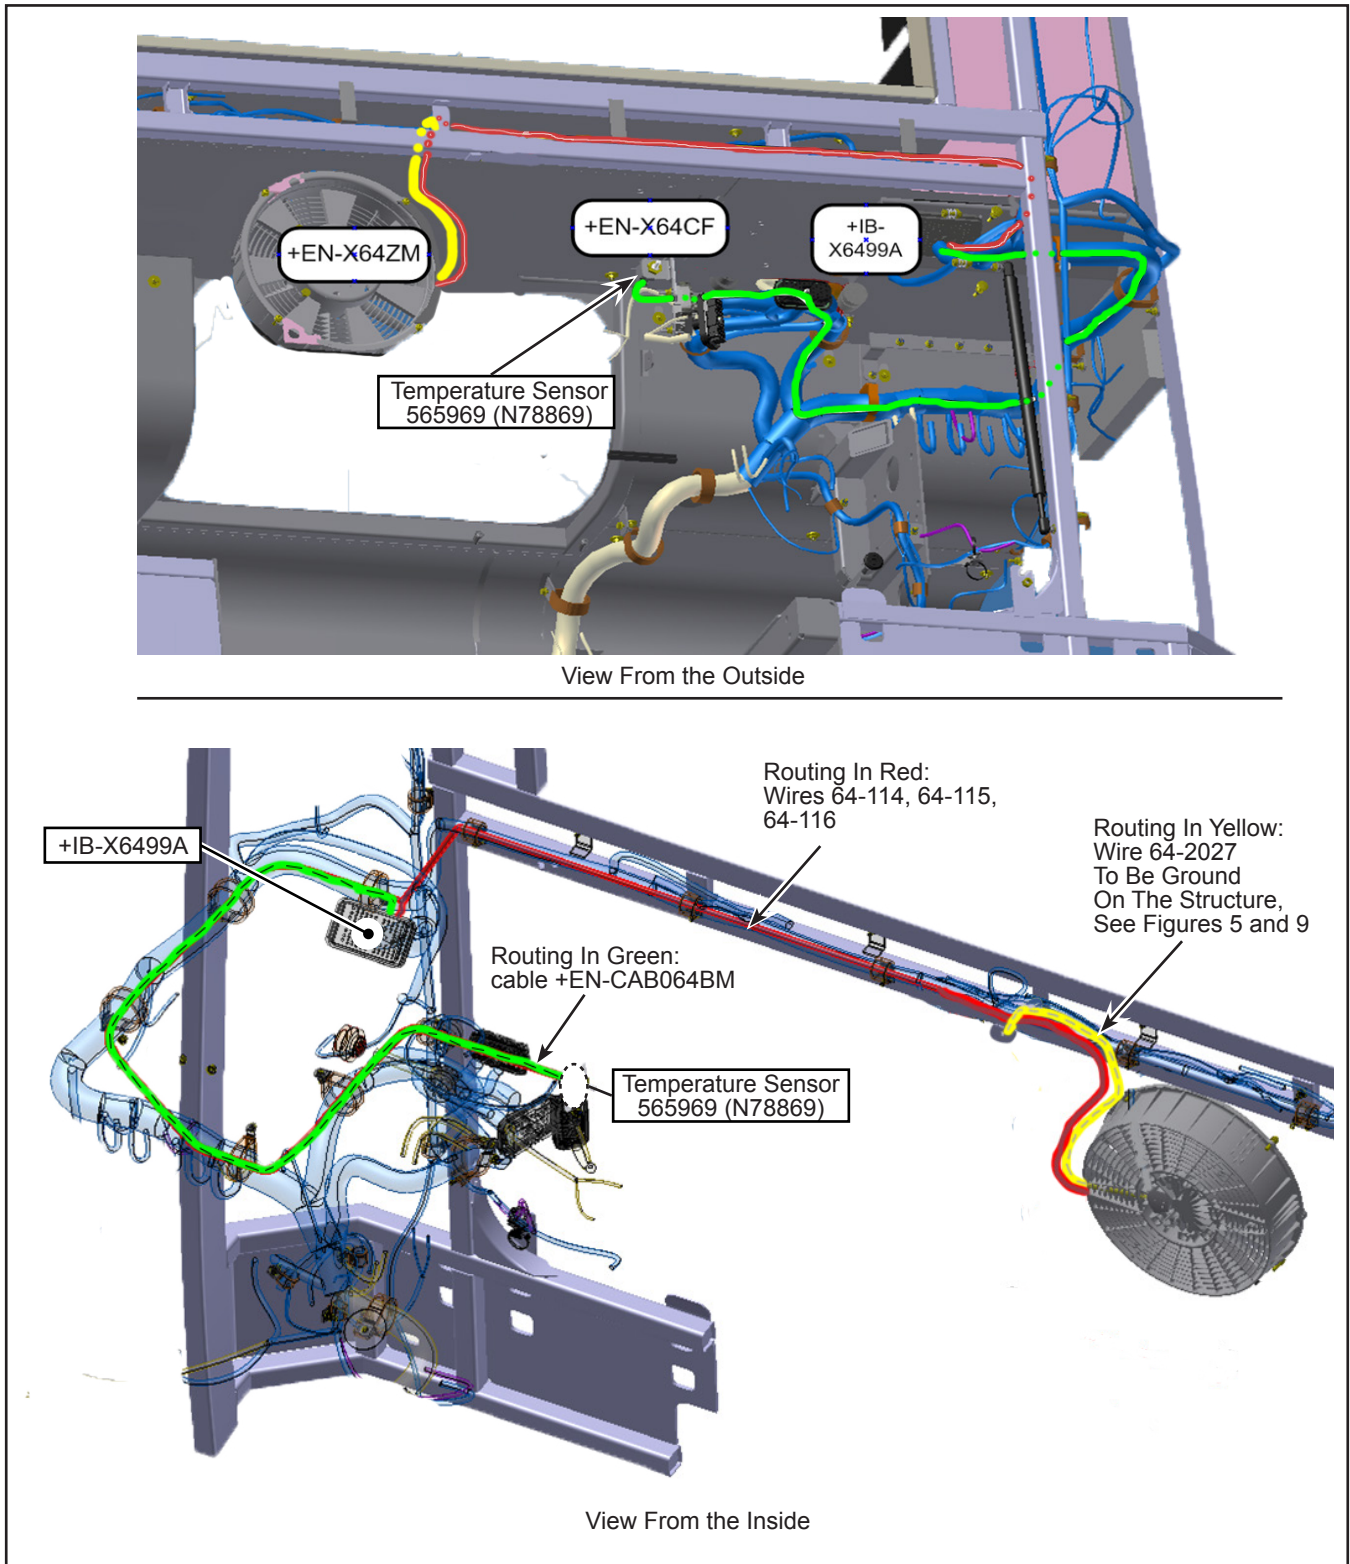

Figure 18 - Routing for the New Harness N632000532
- 1.38. Route harness N632000532 by following existing license plate harness towards the main engine harness 64 on the curb side and then up to the IB-X6499A connector (see Figure 18).